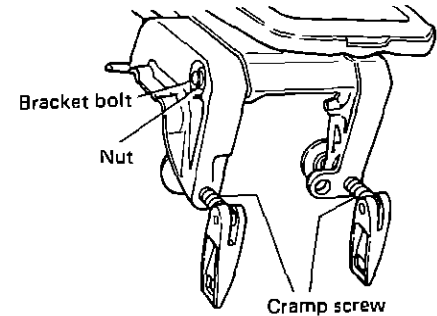

Fig. 25 Checking the bolts and nuts
- 3) Check the bolts and nuts for bracket and others for tightness. (Fig. 25)